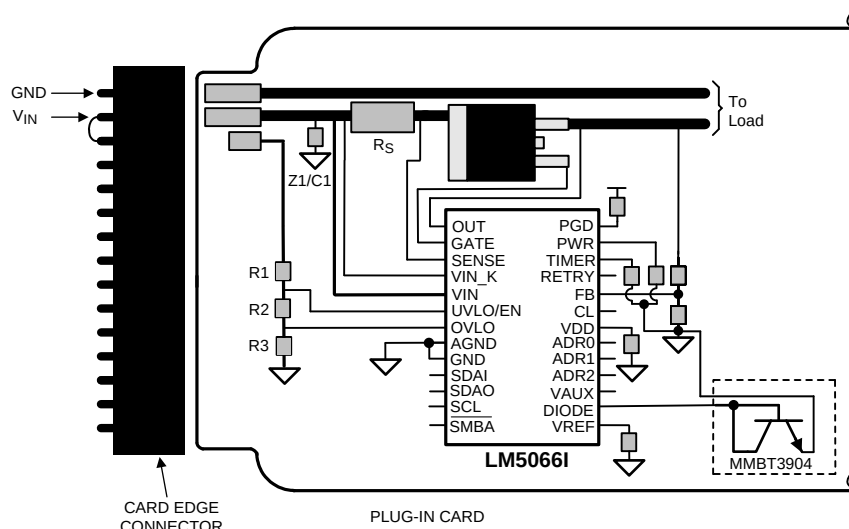

Figure 51. Recommended Board Connector Design
9. The board's edge connector can be designed such that the LM5066I detects through the UVLO/EN pin that the board is being removed, and responds by turning off the load before the supply voltage is disconnected. For example, in Figure 51, the voltage at the UVLO/EN pin goes to ground before  $V_{IN}$  is removed from the LM5066I as a result of the shorter edge connector pin. When the board is inserted into the edge connector, the system voltage is applied to the LM5066I's VIN pin before the UVLO voltage is taken high, thereby allowing the LM5066I to turn on the output in a controlled fashion.